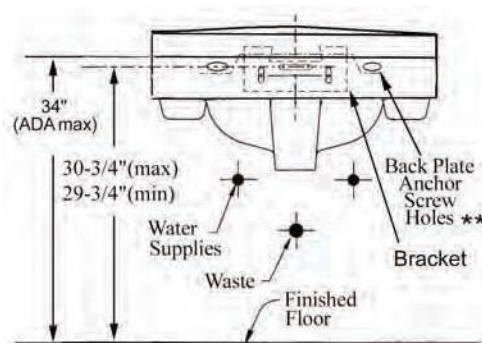

Figure 1
2. This Wall Mount Lavatory is ADA approved when installed to meet the ADA height requirement. The recommended height from the rim to the floor is 33" to 34". See Figure 1 for dimension.